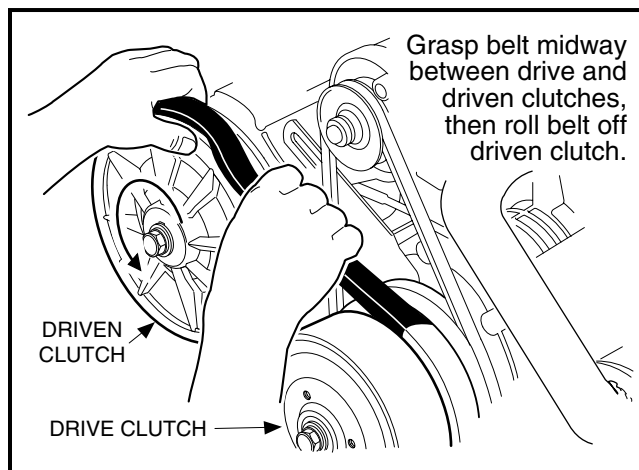

Figure 17-2 Drive Belt Removal
5. Grasp the belt midway between the drive and driven clutches. Lift upward on the belt to force the sheaves of the driven clutch apart, then roll the belt off the driven clutch by rotating the clutch counterclockwise (**Figure 17-2, Page 17-4**). **See following CAUTION.**